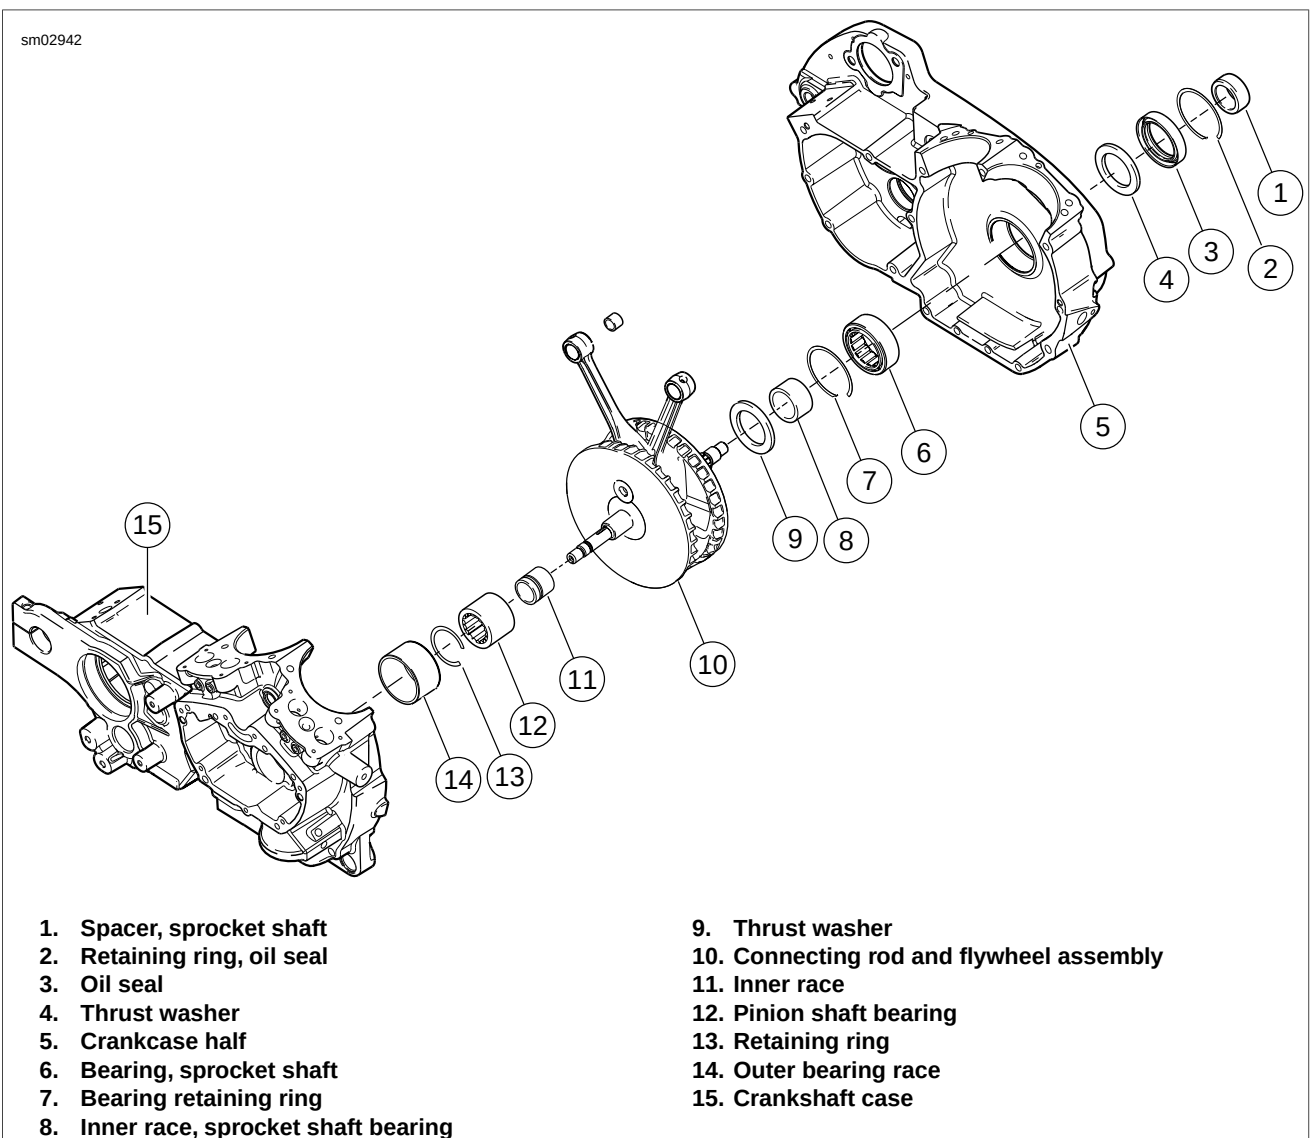

Figure 3-121. Crankcase and Flywheel Assembly
- See Figure 3-121. If it is necessary to remove either the pinion shaft bearing or sprocket shaft bearing, proceed as follows:
- Pinion shaft bearing (12) will remain on flywheel pinion shaft. Remove retaining ring (13) and bearing can be slipped off pinion shaft.
5. See Figure 3-121. Remove sprocket shaft oil seal (3) from crankcase using SNAP-ON BODY DENT PULLER (Part No. CJ114).
6. Remove outer thrust washer (4) next to sprocket shaft bearing (6).
See Figure 3-121. The right side pinion shaft bearing consists of an inner and outer race with rollers.